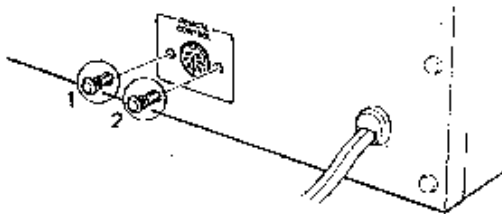

Fig. 16
1. Parts of power circuit board (1) replacement
- Remove plastic rivets ① and ② in fig. 16 which fix the remote control terminal of rear panel.